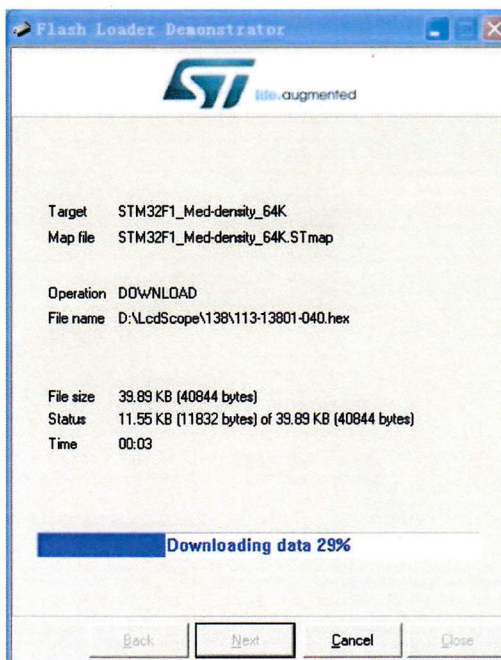
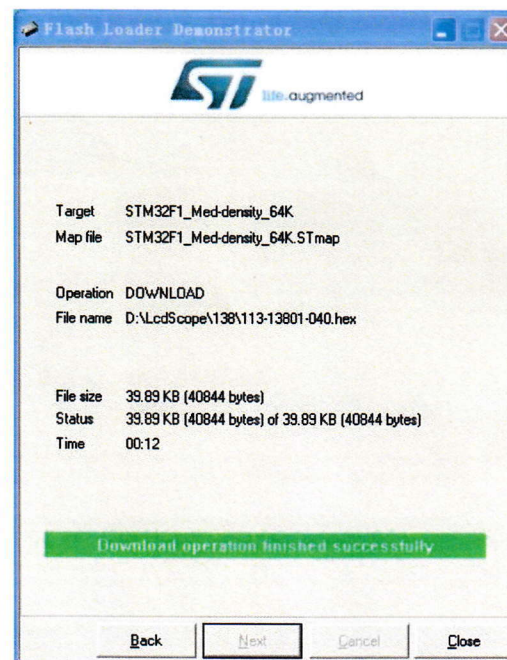

Fig. 9
Fig. 10
- 7) You should see progress bar like that in Fig. 9. When writing is done you should see Fig. 10.